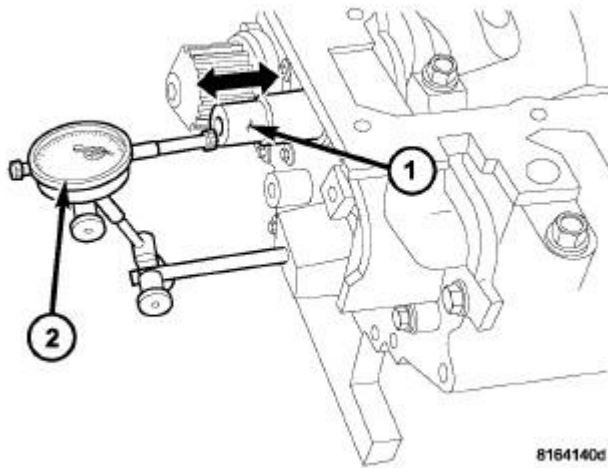

Fig. 211: Checking Crankshaft End Play Using Dial Indicator
1. Mount a dial indicator (2) to front of engine with the locating probe on nose of crankshaft (1). Refer to **Fig. 211**.